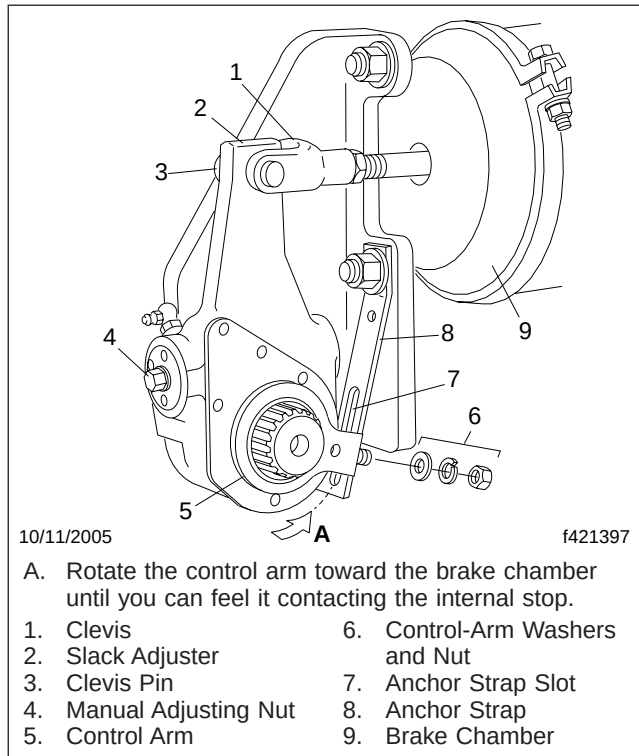

Fig. 11.11, Haldex Automatic Slack Adjuster
- 24.3 *Haldex Slack Adjusters:* Inspect each slack adjuster and anchor strap for damage. See Fig. 11.11. Have any damaged components replaced.